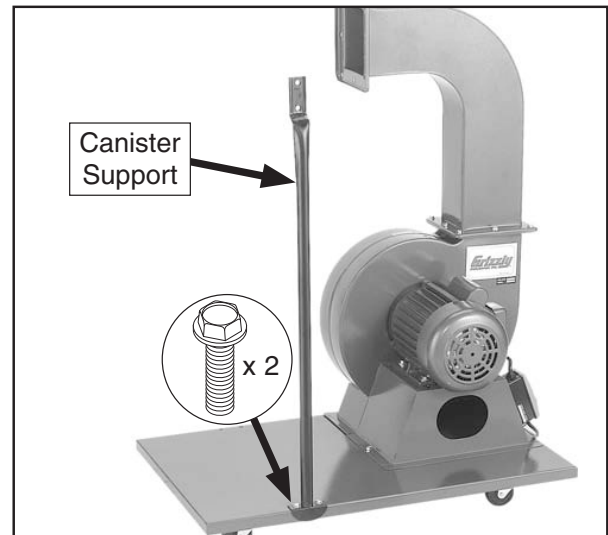

Figure 18. Canister support installed.
- Align the canister support with the mounting holes on the base, as shown in **Figure 18**, then secure it in place with (2) $\frac{5}{16}$ -18 x $\frac{1}{2}$ " flange bolts.